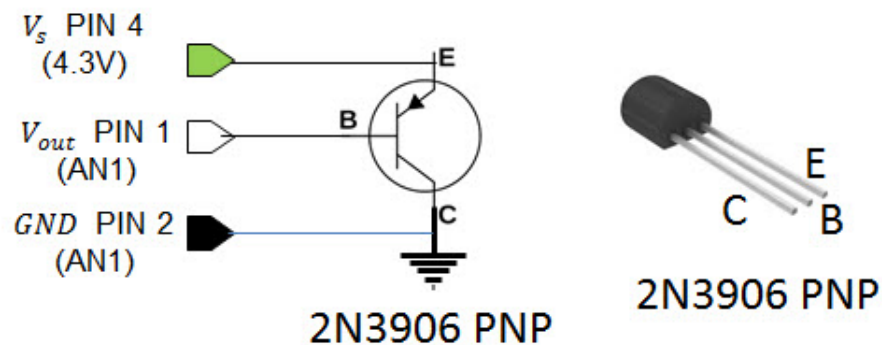

Fig.5-3: The 2N3906 transistor is also a TO-92 package. This particular version (Radio Shack 276-1604) has the 3-pins labeled as shown (right).
Step 1: As before, attach female jumpers to the pins of the LM35 as shown in **Fig. 5-2** (right). Next, insert the 2N3906 transistor into a solderless breadboard. Connect the opposite end of the (LM35) jumpers into the 2N3906 PNP transistor as shown in Fig. 5-3 above.